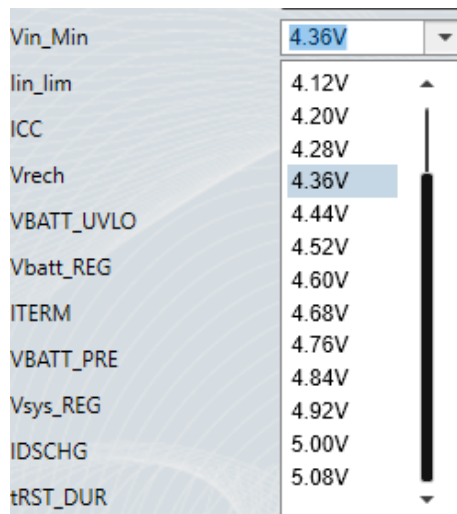

Figure 6: Minimum V_{IN} Setting
- Figure 6 shows the minimum V_{IN} setting. Set the minimum V_{IN} to 4.36V (the range is 3.88V to 5.08V).